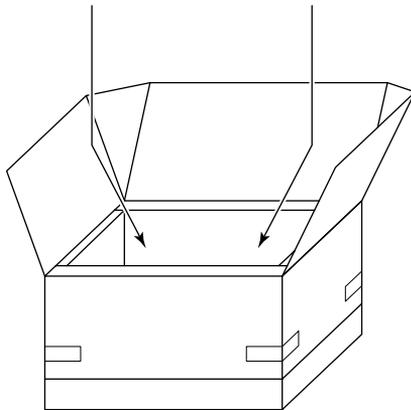

Figure 9-5: Reflectors for a solar oven increase the temperature.
- ✓ **Reflectors:** You can boost the heat quite a bit with a *reflector*, which functions to increase the amount of total sunlight radiation that gets into the oven cavity. Cut some cardboard, glue aluminum foil to each piece (shiny side out), and tape the reflectors together and onto the oven (see Figure 9-5).